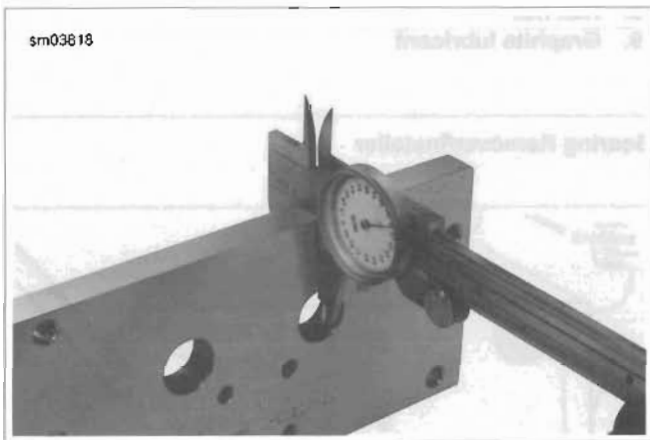

Figure 3-104. Measure Thickness of Support Plate
2. See Figure 3-104. Using a dial caliper, measure thickness of support plate.